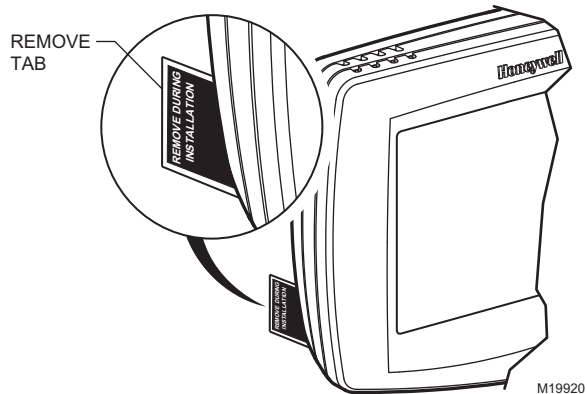

Fig. 23. Remove tab labeled, Remove, on thermostat back.
2. Locate and remove the tab labeled, Remove, in the lower left corner on the thermostat back. See Fig. 23.